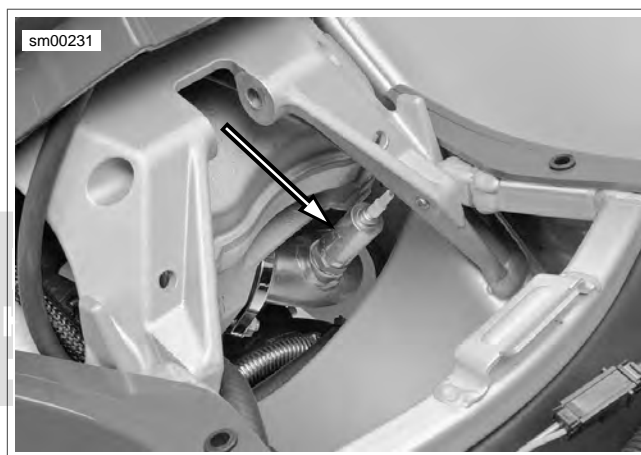

Figure 4-14. Oxygen Sensor (Shock Absorber Removed)
See Figure 4-14. The oxygen sensor (O2 Sensor), located in the rear header pipe, monitors oxygen content in the exhaust gas and converts it to a voltage reading. This voltage reading is used by the ECM to maintain the proper air/fuel ratio during closed loop operation.
2. See Figure 4-14. Thread sensor into exhaust header. Tighten sensor to 40-45 ft-lbs (54-61 Nm).